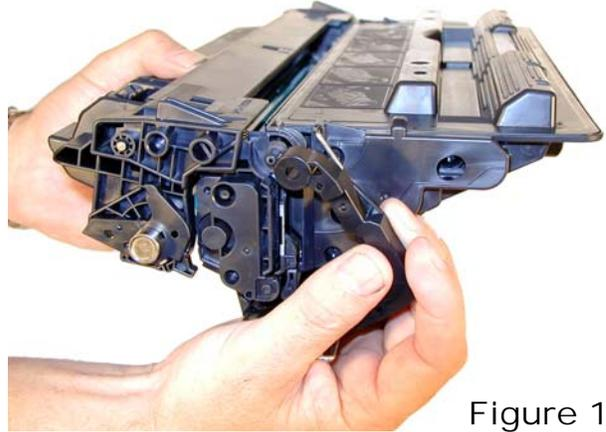

Figure 10
1) Remove the drum cover by prying the spring loaded arm, and then carefully pry off the two metal bars out of their holders. The cover must be in the closed position in order to pry off the spring loaded arm. Be careful not to loose the spring! Both of the metal bars should be removed from the front not the end. See **Figures 10,11 & 12**